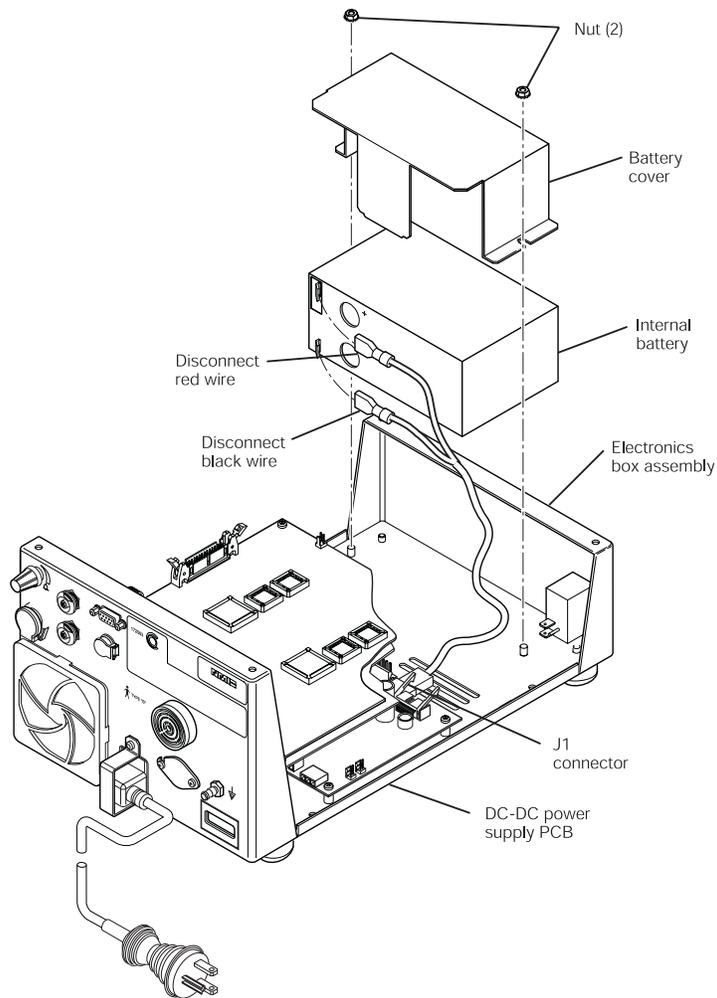

Figure 2-10 Battery removal
Refer to Figure 2-10 and follow these steps.
- 2 Using a prom extraction tool (see Figure 2-10), remove the EPROM installed in U1 on the component side of PCB1810A. Discard the old EPROM.